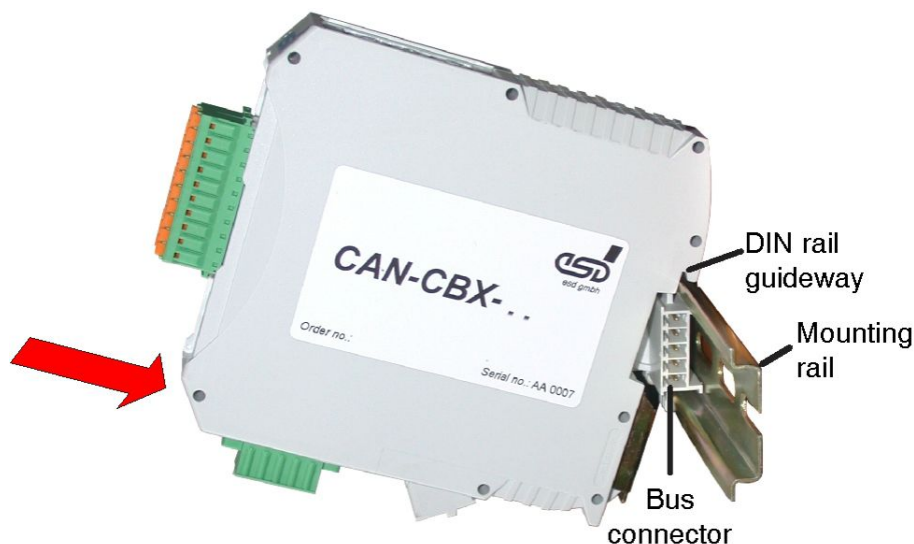

Figure 42: Mounting CAN-CBX modules
- Swivel the CAN-CBX module onto the mounting rail in pressing the module downwards according to the arrow as shown in figure 42. The housing is mechanically guided by the DIN rail bus connector.